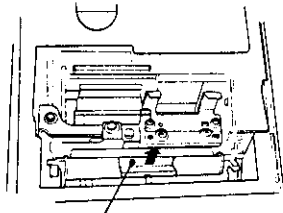

Fig. 2
3. Hold the Ink Roll Knob and pull it upward. The Ink Roll will be removed. (Fig.2)